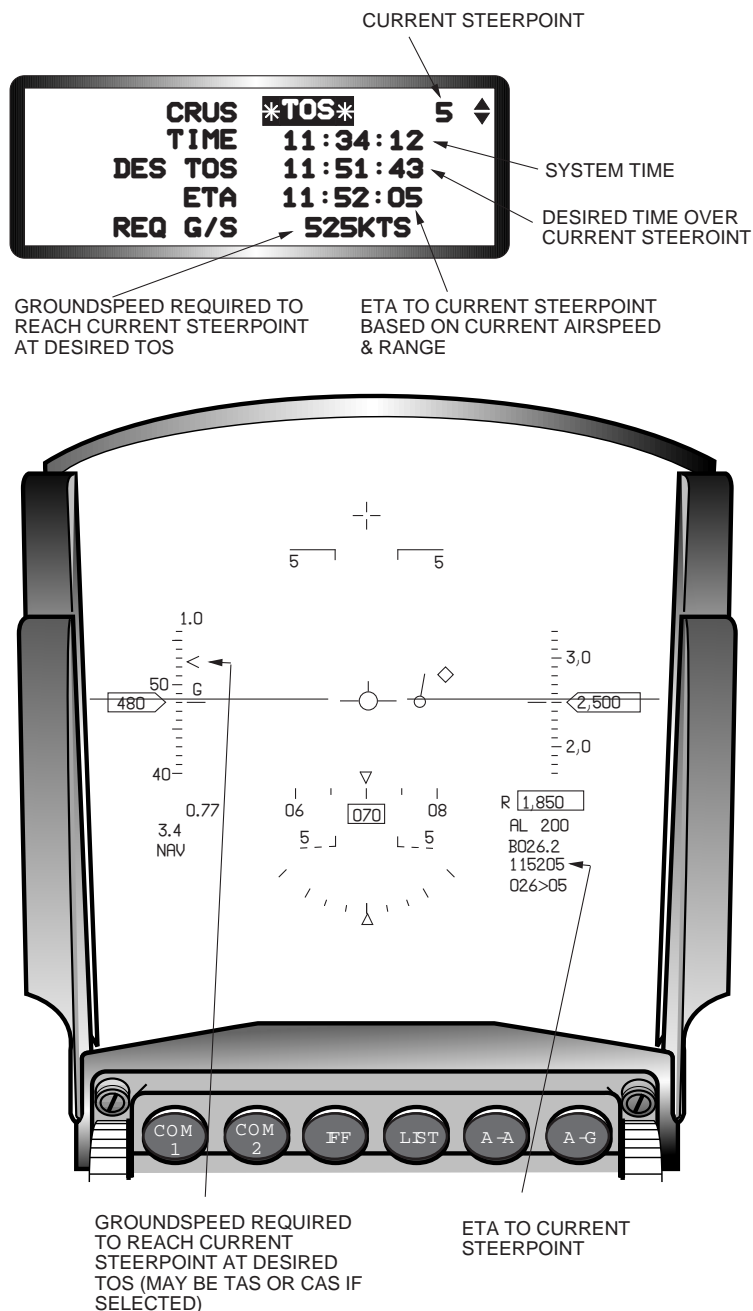

Figure 2-15 Cruise Time-Over-Steerpoint Option
**Time Over Steerpoint.** The TOS cruise Energy Management (EM) function provides an Estimated Time of Arrival (ETA) at the currently selected steerpoint in system or hack time, as selected, and a required ground-speed to reach the currently selected steerpoint at a desired TOS. The computation is made from the aircraft present position to the currently selected steerpoint. The currently selected steerpoint, system or hack time, desired TOS, ETA at the current steerpoint using current flight conditions, and ground speed required to make good the desired TOS are displayed on the CRUS TOS DED page (Figure 2-15). When TOS is mode selected, an airspeed caret is displayed on the airspeed scale in the HUD which represents the computed airspeed (Ground Speed (GS), TAS, or CAS, as selected) to reach the currently selected steerpoint at the desired TOS, and the time to steerpoint in the HUD is replaced with the ETA to the current steerpoint. The pilot may enter TOS values for each steerpoint either during preflight planning and load with the DTC, or manually using the UFC and the CRUS TOS DED page.